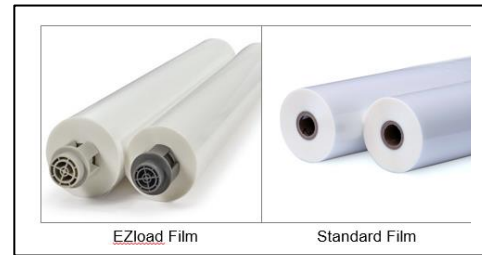

Figure 8
- M. **FILM ROLL SUPPLY:** The Pinnacle 27 uses standard rolls of film while the Pinnacle 27 EZload uses EZ Load laminating film (figure 8).